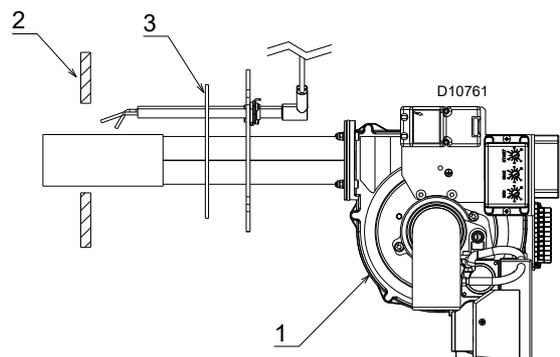

Fig. 7
- Fix the burner 1)(Fig. 7) to the boiler door 2) using the 4 screws and (if necessary) the 4 nuts supplied to the standard equipment, interposing the insulating flange gasket 3).